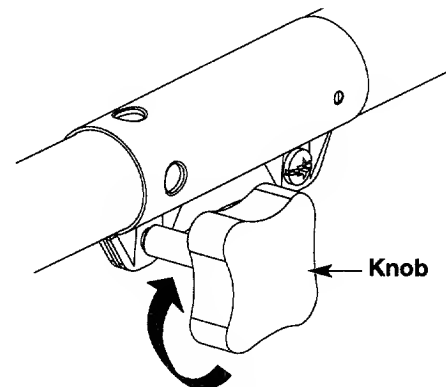

Fig. 3
3. Turn the knob clockwise to tighten (Fig. 3).